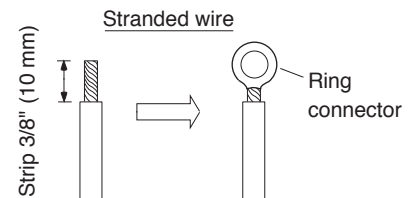

Fig. 30
- (1) Cut the wire end with a cutting pliers, then strip the insulation to expose the stranded wiring about 3/8" (10 mm) and tightly twist the wire ends. (Figs. 30 and 31)
- (2) Using a screwdriver, remove the terminal screw(s) on the terminal plate.
- (3) Using a ring connector fastener or pliers, securely clamp each stripped wire end with a ring connector. (Fig. 30)